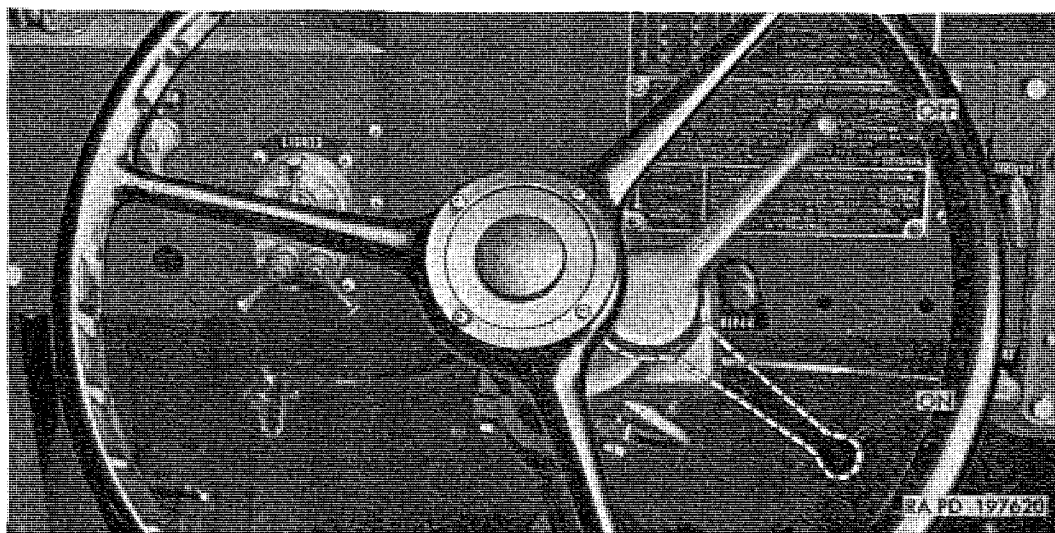

Figure 37. Trailer brake hand control (tractor truck M221).
(3) *Trailer brake hand control* (fig. 37). The truck tractor M221 is equipped with a trailer brake hand control valve mounted on steering column directly under steering wheel. The hand control valve is used to apply trailer brakes independently of truck brakes. Varying degrees of trailer brake application ranging from fully released to fully applied position may be made with hand control.